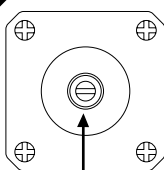

Figure 12
- 2) Confirm that the motor shaft turns by using the flathead screwdriver to turn the slot counterclockwise 1 revolution and then back clockwise 1 revolution. (Figure 12)